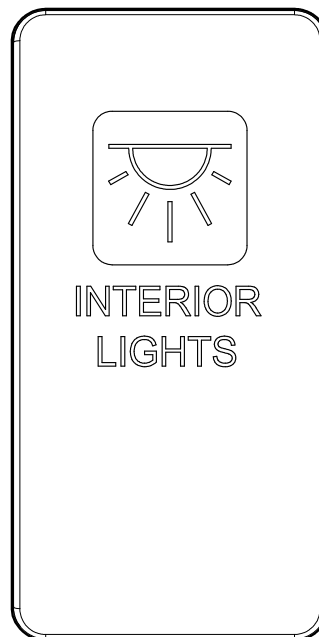

Figure 4
3. Locate the Interior Light Switch (*see Figure 4*).